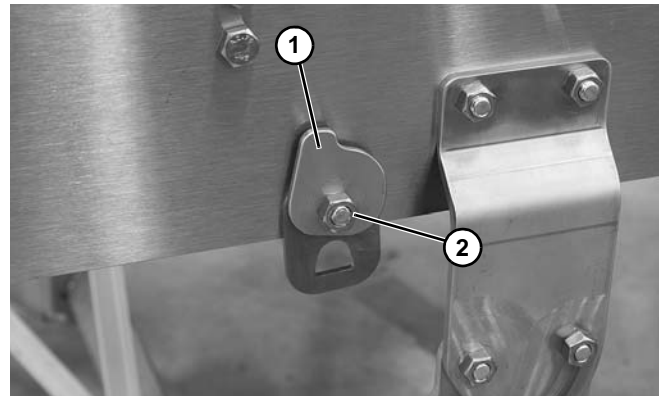

Figure 31
3. Install return clip (Figure 31, item 1) and loosely secure with nut (Figure 31, item 2).